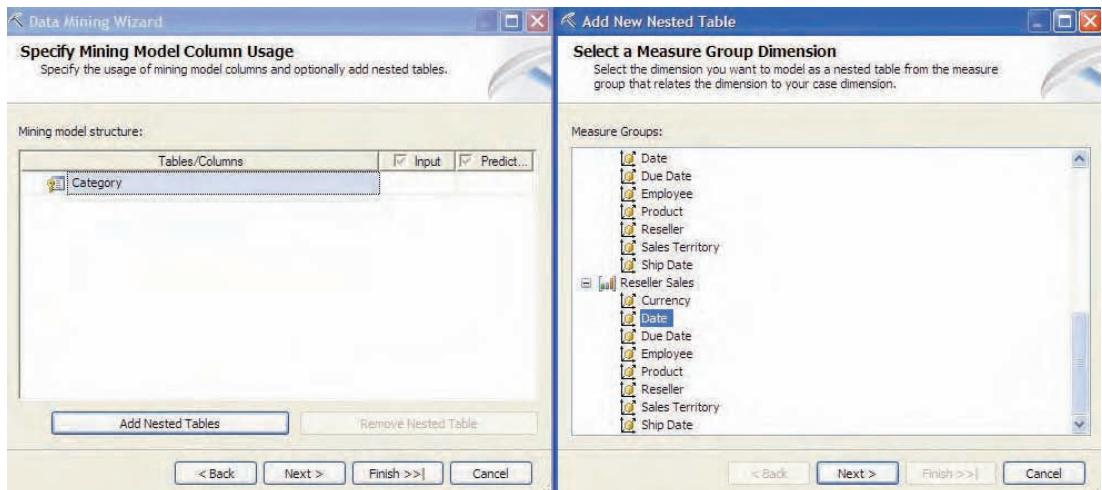

Figure 8.21 The time information is derived from the Date nested dimension.
- In the Select a Measure Group Dimension step, select the *Date* dimension (Figure 8.21) from the **Reseller Sales** measure group.